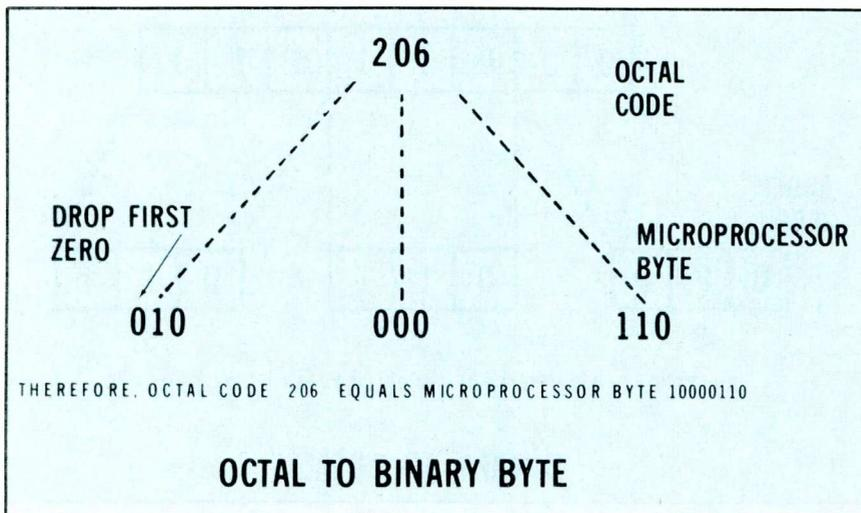

Figure 3 Conversion from octal instruction 206 to machine code 1000110 is illustrated here.
Figure 3 Definite conditions are required before a varistor can produce dc voltage. The input signal must have pulse waveform. (A) The schematic is typical of shunt rectification, but the signal is horizontal-sweep pulses and a varistor is substituted for a diode. (B) The lower horizontal line is the average voltage of the waveform, and the upper one is the zero line. When the zero line is above the average line, the waveform will measure as a negative voltage. Signal of 275VPP produced -38V. (C) The same 275VPP pulse signal (top trace) was reduced to only 85VPP at the varistor when a varistor of insufficient resistance was used. Less than -1V was measured. (D) Another source of 540VPP pulses
known, it is easy to determine the required binary byte for the microprocessor. For example, the 6800 octal code for loading the contents of the memory into accumulator A is 206 (this code is provided by the manufacturer). Figure 3 shows the procedure for converting this octal code to the binary byte.